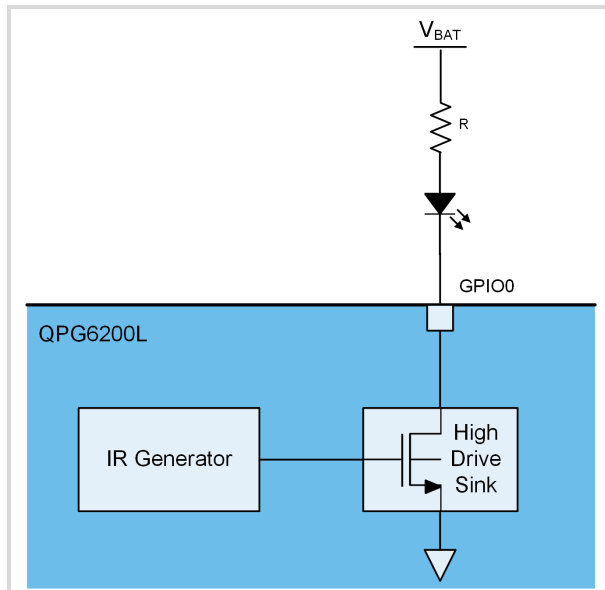
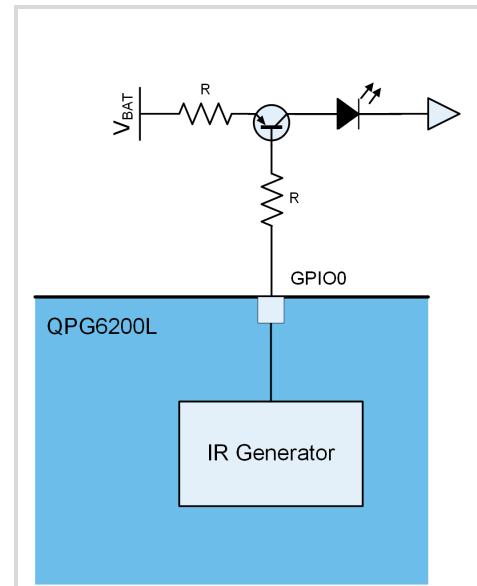

Figure 3: IR with High Drive Sink
Figure 4: IR without High Drive Sink
- **High Drive Sink:** on GPIO0 a high drive sink (MOSFET N-Type) can be enabled, suitable for e.g., driving a high-power IR LED circuit. Figure 3 shows an IR LED circuit with the high drive sink enabled. For comparison, Figure 4 shows an example without high drive sink.